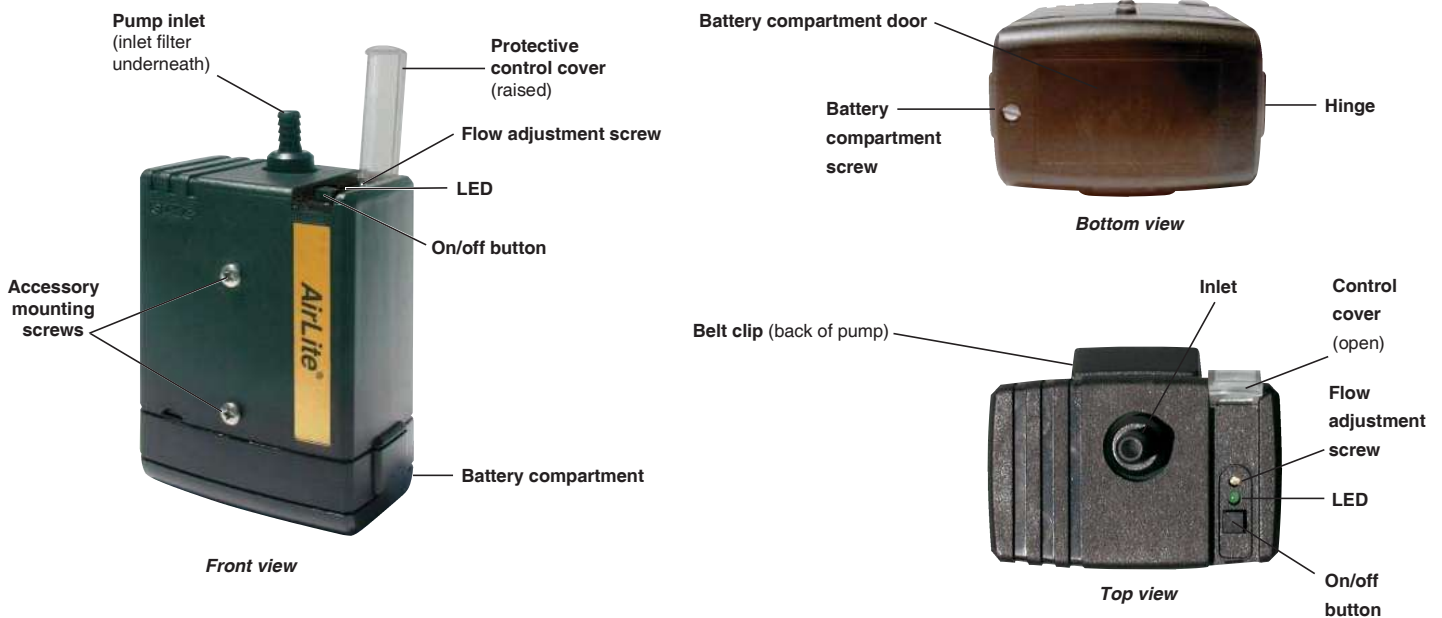

Figure 1. AirLite Sample Pump
The AirLite Sample Pump (Figure 1) provides 5 to 3000 ml/min flows and is suitable for abatement, indoor air sampling, and emergency response in non-hazardous locations.
The AirLite is powered by three standard AA alkaline batteries located in a compartment on the bottom of the pump (*Figure 1*). To insert new or replace existing batteries:
1. Use a slotted screwdriver to loosen the screw on the bottom of the case (*Figure 1*).
4. With the new batteries in place, insert the hinge (*Figure 1*) on the compartment door under the lip of the case, close the door, and tighten the screw until secure.
1. Turn on the pump using the on/off button (*Figure 1*) and run for 5 minutes before calibrating. Leave the pump running.
4. Using a small screwdriver, set the pump flow rate by turning the flow adjustment screw (*Figure 1*) **clockwise** to increase the flow or **counterclockwise** to decrease the flow until the calibrator indicates the method-specified flow rate. Take a minimum of three readings and record the average flow rate, as per OSHA/NIOSH instructions.
1. Turn on the pump using the on/off button (Figure 1) and run for 5 minutes before calibrating. Leave the pump running.
3. Set the pump flow rate to 1.5 L/min. Using a small screwdriver, turn the flow adjustment screw on top of the pump (Figure 1), **clockwise** to increase flow or **counterclockwise** to decrease flow, until the calibrator indicates 1.5 L/min.